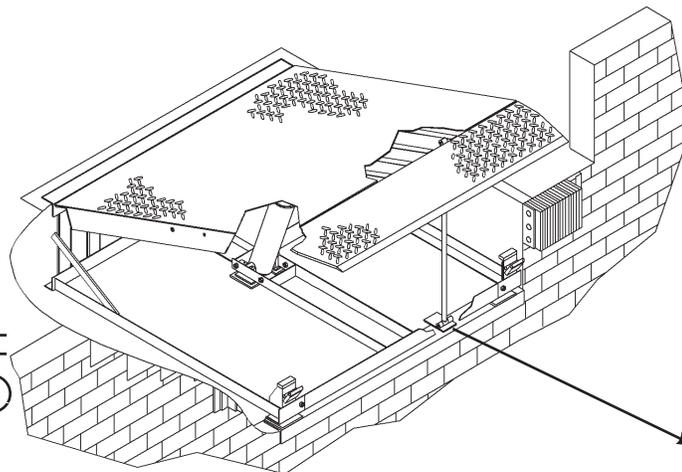

Figure 30
Whenever maintenance is to be performed under the dock leveler platform, support the platform with maintenance prop (C). Position the maintenance prop behind front header plate (D) while staying clear of the lip. The lip will fold down after the platform has rested on the maintenance prop. Lock the maintenance prop in the service (upright) position using an OSHA approved lockout device* (B) and tag out device* (A). See Figures 30 and 31.